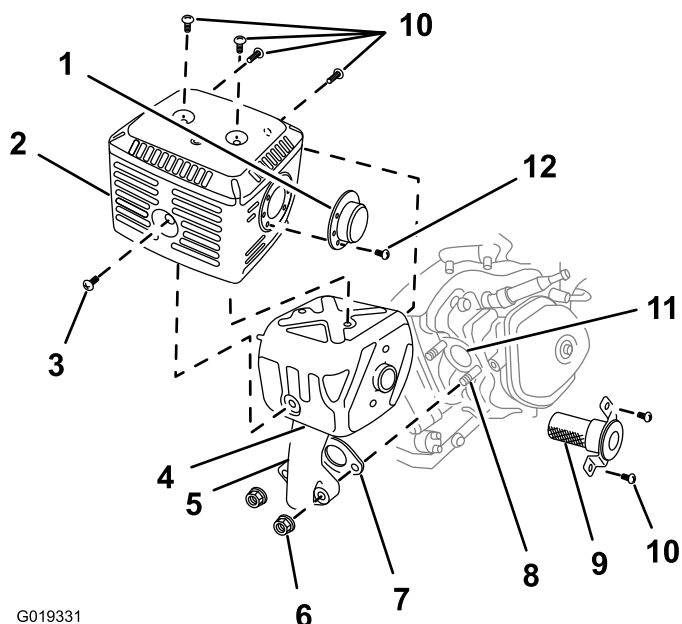

Figure 47
5. Remove the 2 nuts (8 mm) and remove the muffler from the cylinder (Figure 47).
- Remove the 3 screws (4 mm) from the exhaust deflector, and remove the deflector (Figure 47).
- Remove the screws (5 mm and 6 mm) from the muffler protector, and remove the muffler protector (Figure 47).
- Remove the screws (4 mm) from the spark arrester, and remove the spark arrester from the muffler (Figure 47).